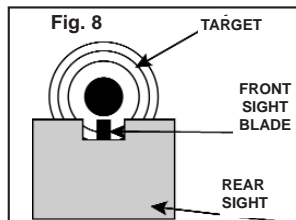

Fig. 8
- The airgun is correctly aimed when the front sight blade is positioned exactly in the center of the notch of the rear sight. The top of the front sight blade should be even with the top of the notch in the rear sight. The bulls-eye should appear to rest on the top of the front sight. (Fig. 8)